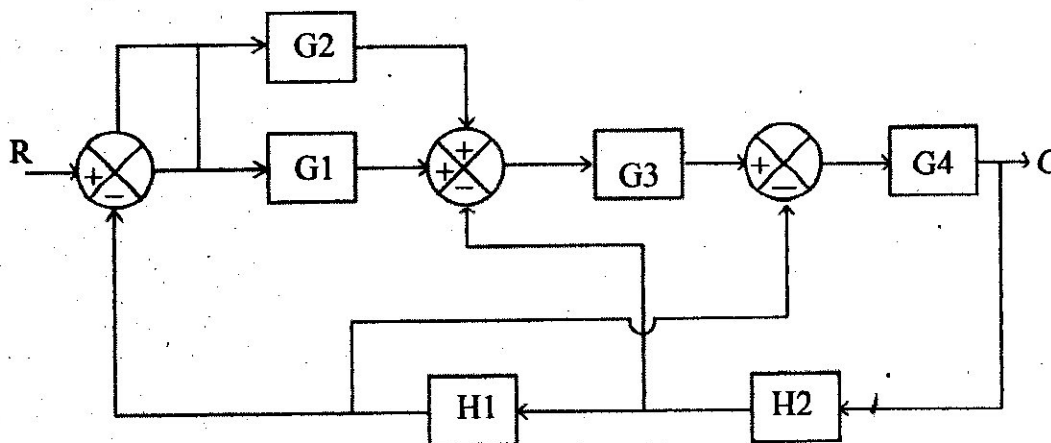

fig.1(a)
Q.1. (b) Fig. 1(b) shows a positional control system for controlling the position of a shaft. The potentiometer error detector measures the deviation of the output shaft w.r.t. reference position O_r . The error is amplified by mean of an amplifier, the output of which is fed to an armature controlled dc motor. The motor shaft is coupled to the load shaft through a gear. The system parameters are as follows;